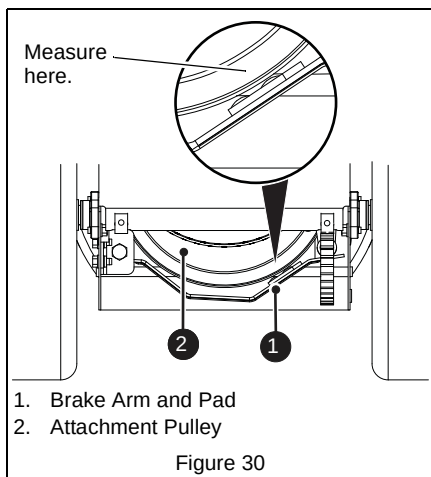

Figure 30
- If roller is less than 12.7 mm (1/2") from frame, loosen idler adjustment nut and move idler closer to belt. Tighten adjustment nut and recheck roller clearance. See Figure 30.
- If roller is more than 22.2 mm (7/8") from frame, loosen idler adjustment nut and move idler away from belt. Tighten adjustment nut and recheck roller clearance. See Figure 30.
- If there is less than 1.6 mm (1/16") gap, loosen idler adjustment nut and move idler away from belt. Position idler to achieve a 1.6 mm (1/16") minimum brake pad gap and a 12.7 – 22.2 mm (1/2 – 7/8") gap between the plastic roller and the frame. See Figure 30.